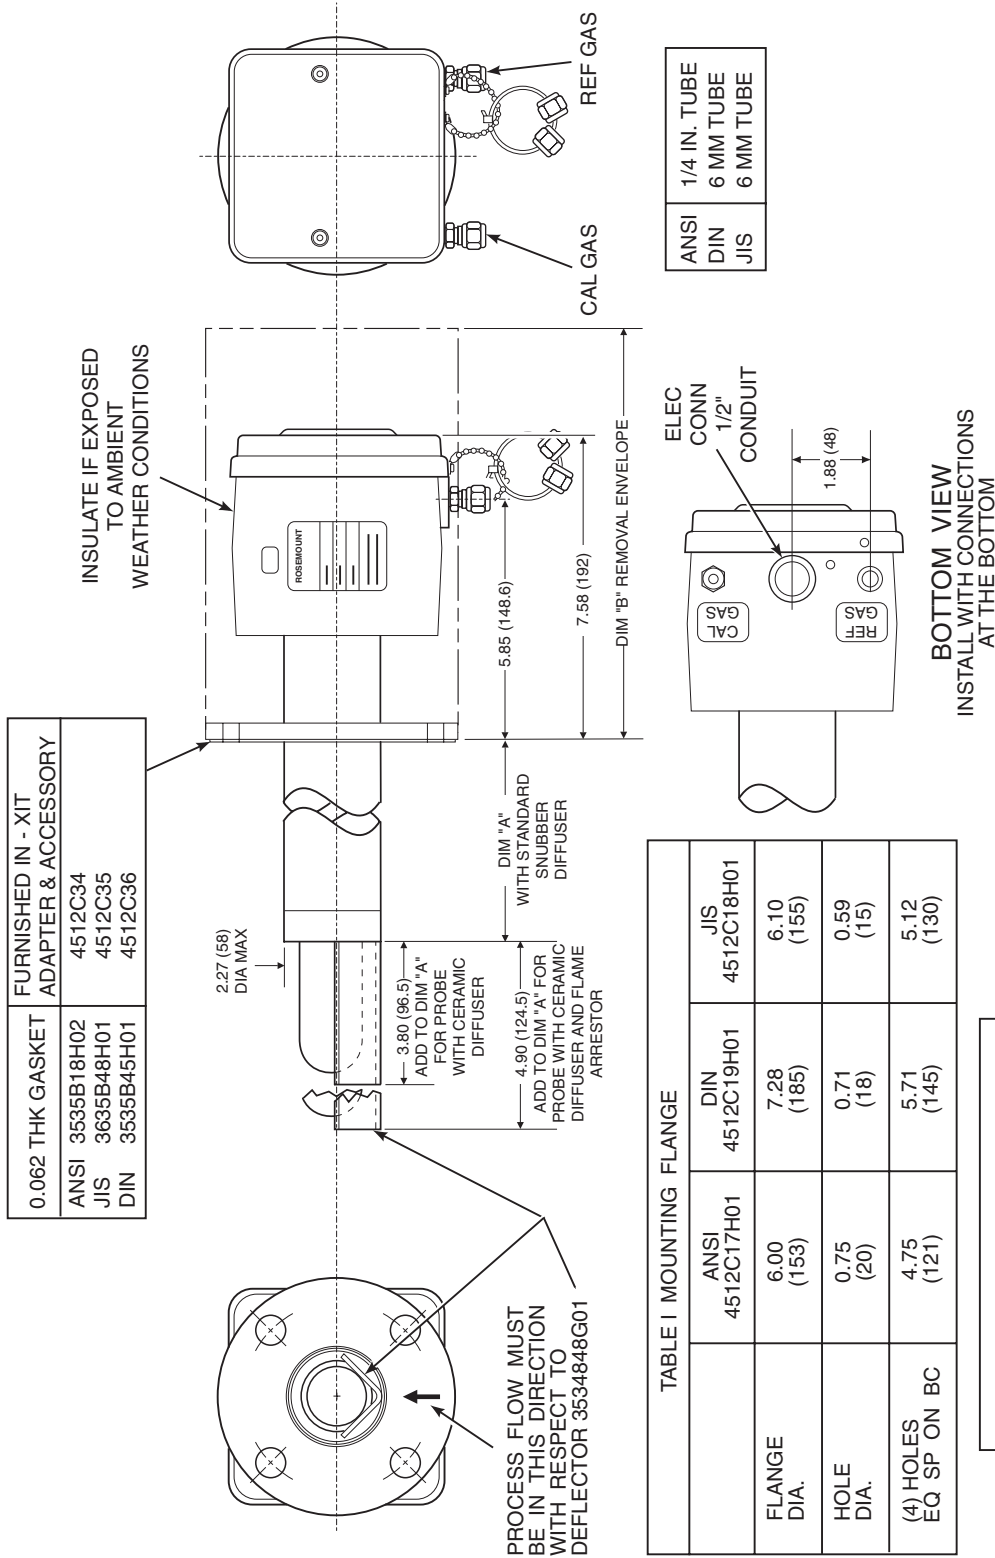

Figure 2-1. Probe Installation (Sheet 1 of 5)
An abrasive shield is recommended for high velocity particulate in the flue stream (such as those in pulverized coal kilns and recovery boilers). Vertical and horizontal brace clamps are provided for 9 ft and 12 ft (2.75 m and 3.66 m) probes to provide mechanical support of the probe. Refer to Figure 2-1, Sheet 5.
3. Weld or bolt adapter plate (Figure 2-1) onto the duct.
7. Insert the probe through the opening in the mounting flange and bolt the unit to the flange. When probe lengths selected are 9 or 12 feet (2.74 or 3.66 m), special brackets are supplied to provide additional support for the probe inside the flue or stack. See Figure 2-1, sheet 5.